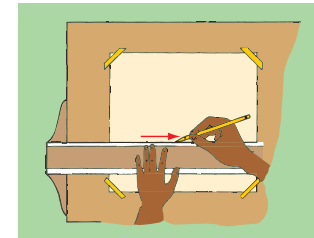

Figure 3-27. Draw in the direction the pencil is leaning.
- As a general rule, when drawing lines with a T-square, draw in the direction the pencil is leaning, as shown in **Figure 3-27**.